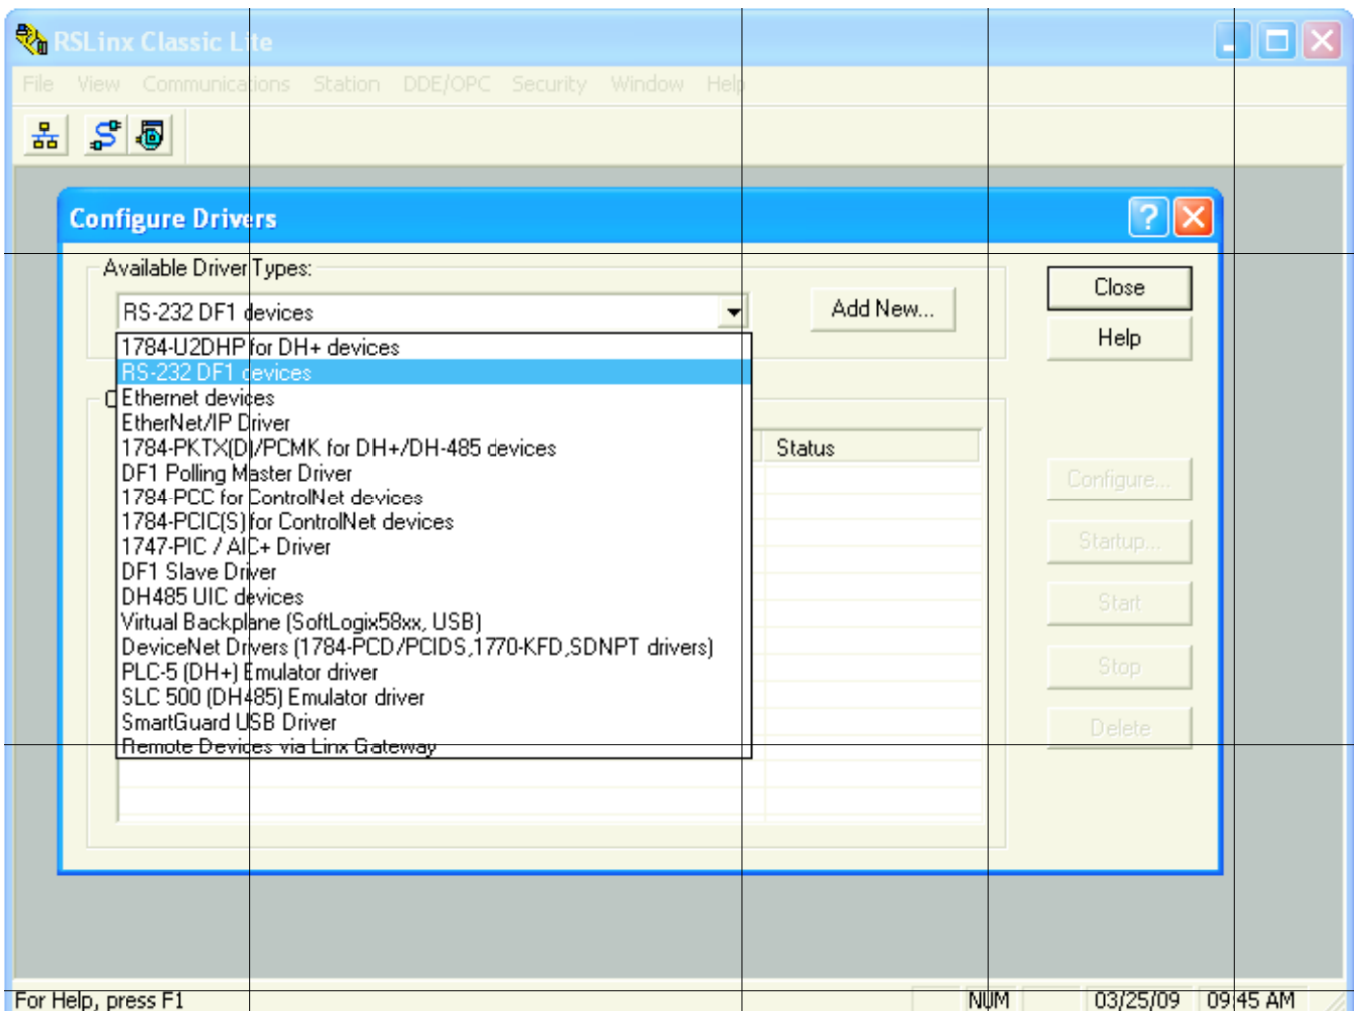

Figure 11-3: Configure Drivers
6. Click on 'Communications' and select 'Configure Drivers'. When the 'Configure Drivers' window opens, select 'RS232 DF1 devices' in the 'Available Drive Types' pull down menu (Figure 11-3).